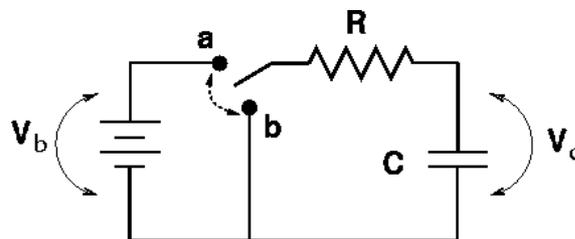

Figure 5.4
1. Charge a capacitor using a power supply and a resistance as shown Figure 5.4.
2. After the capacitor is fully charged, discharge the capacitor through the resistance R only (Remove the power supply) as shown in Figure 5.4.